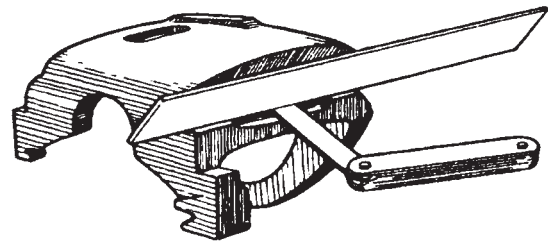

Figure 1
3. Lay a straight edge across the caliper v-way surfaces (see Figure 1) and measure with a feeler gauge. If the maximum depth is .050" or more the caliper should be replaced.